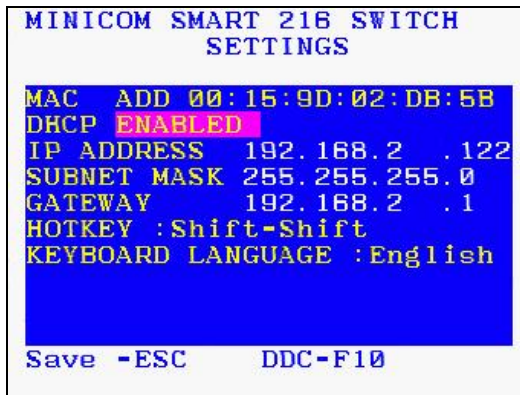

Figure 11 Settings window
2. Press **F2**. The Settings window appears see Figure 11.